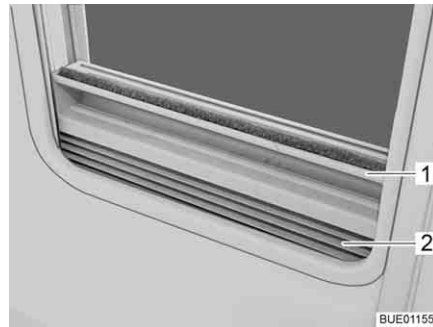

Fig. 50 Roman shade
- Grip the Roman shade (Fig. 50,2) in the middle of the holding bar (Fig. 50,1), pull it upwards and then release it at the desired height. The Roman shade will stay at this height.